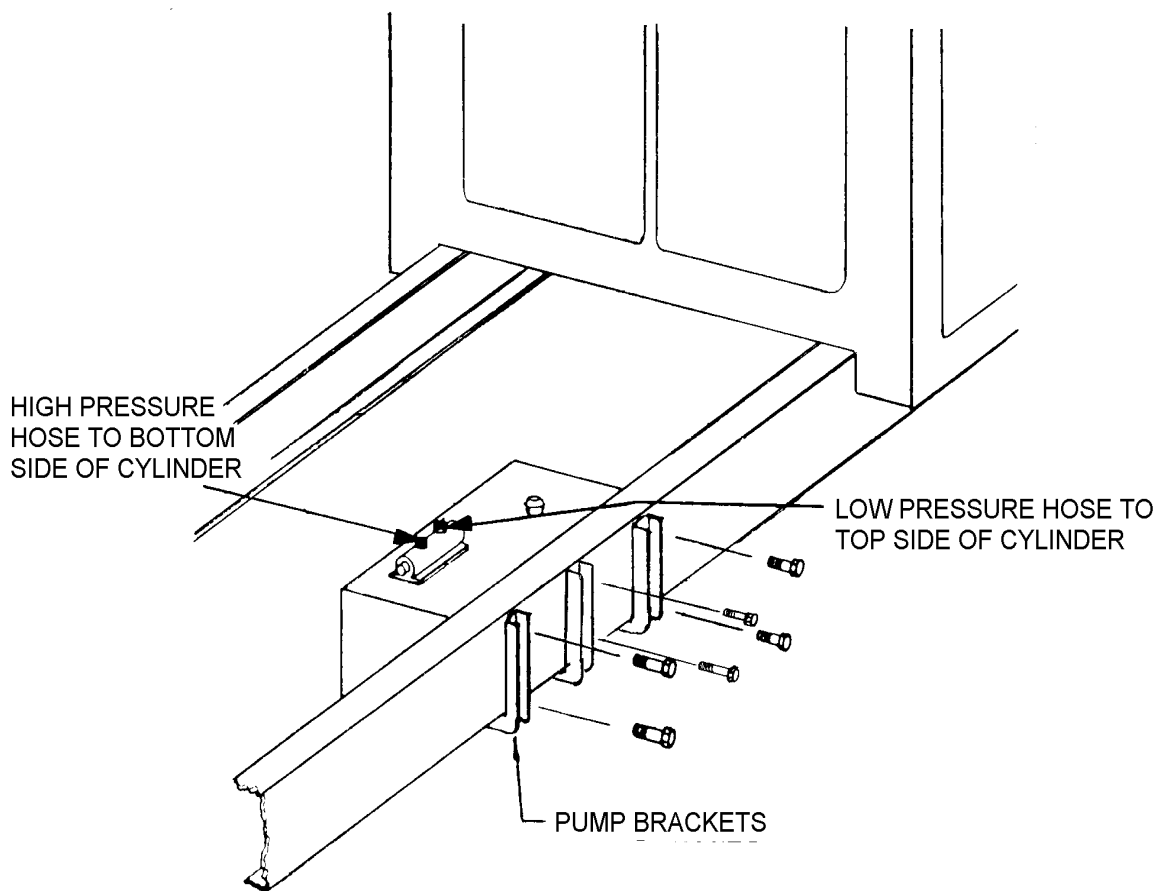

Figure 5 - Pump Installation
1. See Figure 5. Position and bolt each pump bracket to the pump and secure with the 3/8 x 1-1/4" bolts and hex nuts (VC-520 requires only 2 pump brackets).
3. Two (2) 17/32" holes need to be drilled in the pump brackets and truck frame (Figure 5). Mark the hole locations as close to the truck frame flanges as possible. Drill 17/32" holes and install the 1/2" x 1-1/2" hex head cap screws with lockwashers and hex nuts.
1. 7' (or 7'-10") hose(s) installation - Connect one end of the hose to the front pump port (low pressure). Connect the other end of the hose to the rod end of the hoist cylinder (Figure 5).
2. 5' hose(s) installation - Connect one end of the hose to the rear pump port (high pressure). Connect the other end of the hose to the base end of the hoist cylinder (Figure 5).